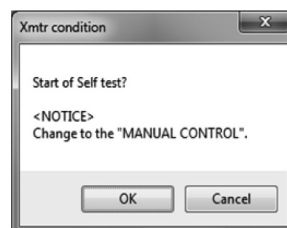

Fig.112
- ③ Click the "OK" button to display a message box (Fig. 112).